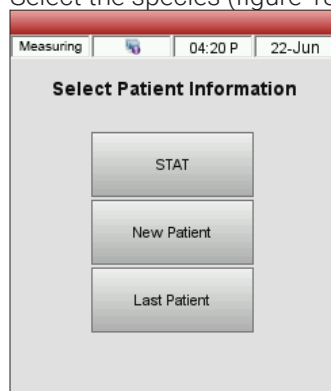

Figure 17. Measurement> Select Patient Information screen
1. Tap the **STAT**, **New Patient** or **Last Patient** button (figure 17).